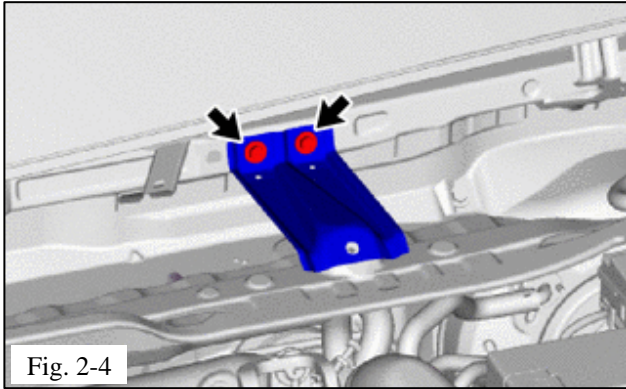

Fig. 2-4
- (d) Remove the cowl body mounting reinforcement RH (Fig. 2-4). Remove the 2 bolts and cowl body mounting reinforcement RH from the vehicle body.